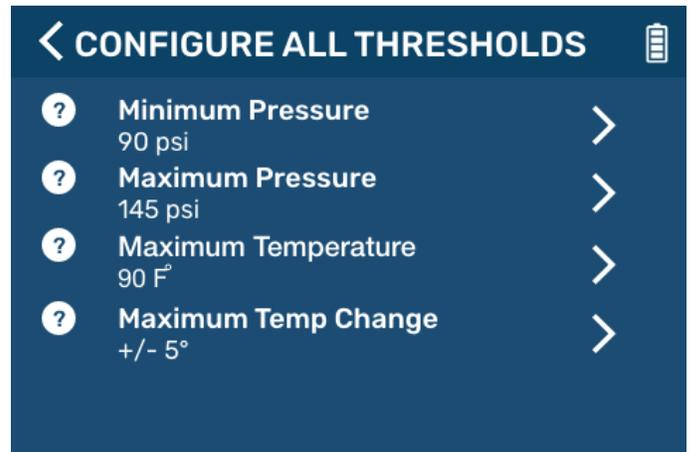

Fig.18
3. Set the Minimum Pressure, Maximum Pressure, Maximum Temperature and Maximum Temp Change for the sensors (Fig.18). After each selection, tap FINISH.